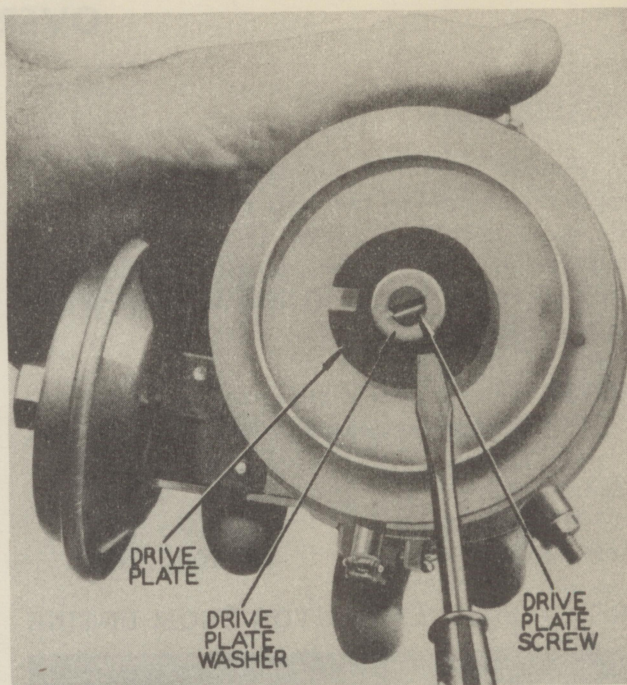

Fig. 6
1. Remove the screw, washer, and drive plate from the underside of the distributor housing (Fig. 6), then pull out the shaft and cam assembly.
1. Place the shaft and cam assembly in the distributor and assemble the drive plate to the bottom of the shaft. Then secure the plate with the drive plate screw and lockwasher (Fig. 6).